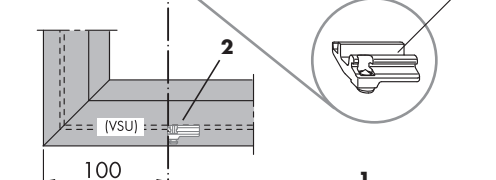

Fig. 6
- A** Slide the stay arm of the sash brake ALU (**815/816/817**) on to the inserted filling piece for end position damping (**814**) in the stop (**813**) (fig. 6).
Position sash lift (1) on bottom locking side as shown (Fig. 6) and fix with grub screws (torque 1.5 ± 0.25 Nm, 2.5 mm AF).